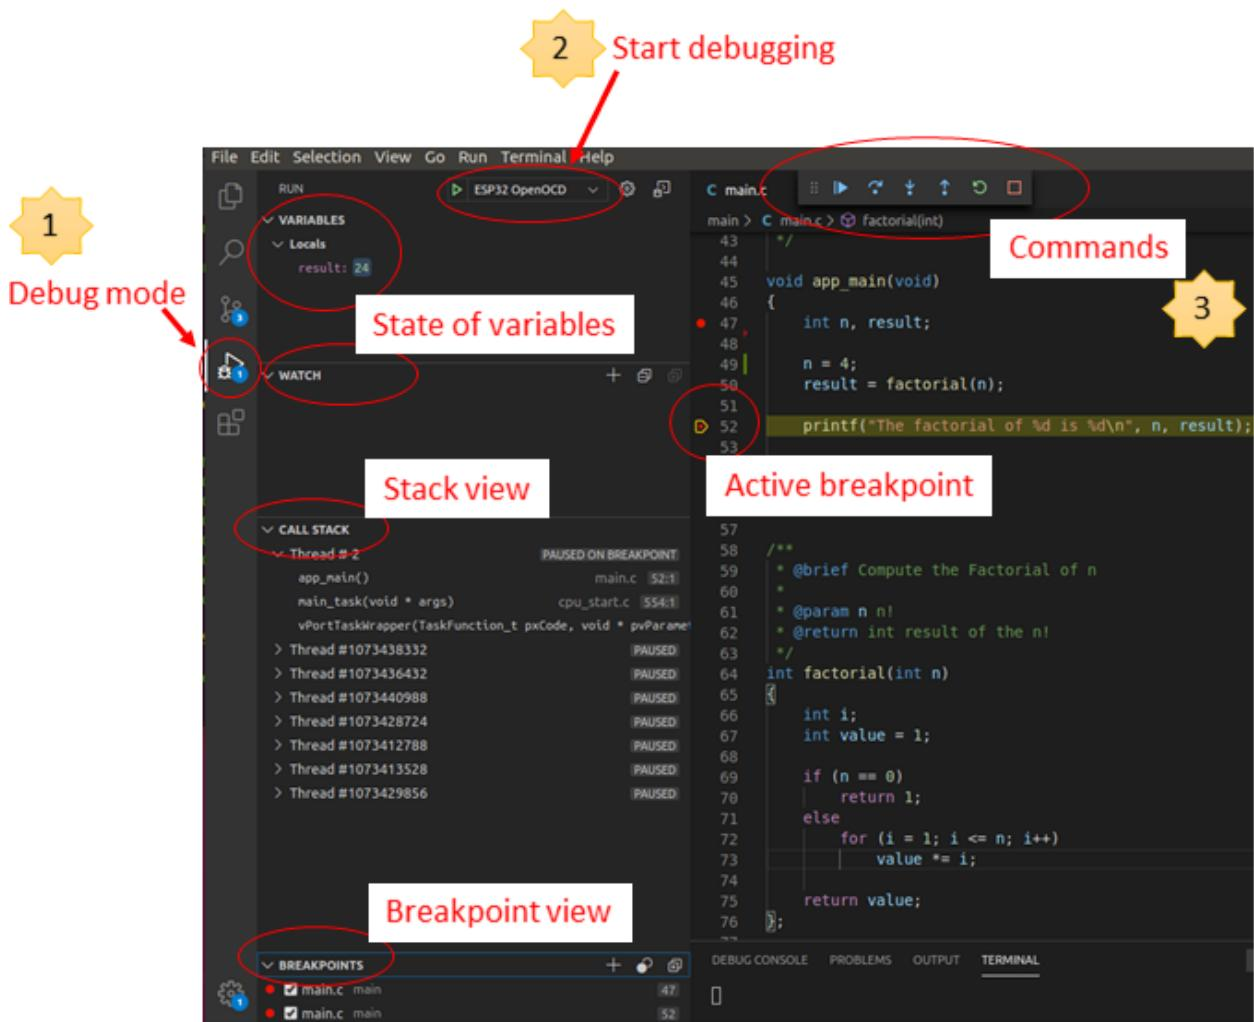

FIGURE 2.4 – Debugging with Visual Studio Code.
2. Run the debugger to the breakpoint (cf. figure 2.4)